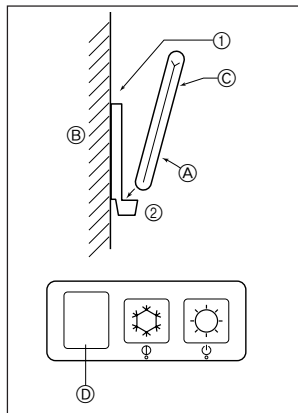
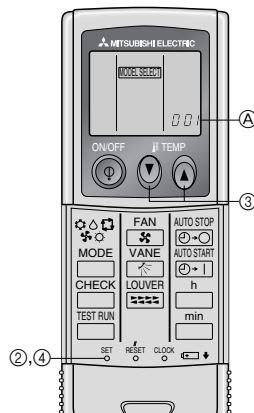

Fig. 6-5
Fig. 6-6
2) Installation method (Fig. 6-5)
- ① Attach the remote controller holder to the desired location using two tapping screws.
- ② Place the lower end of the controller into the holder.
3) Setting (Fig. 6-6)
- ① Insert batteries.
- ② Press the SET button with something sharp at the end. **MODEL SELECT** blinks and Model No. is lighted.
- ③ Press the temp \downarrow \uparrow button to set the Model No.
- ④ Press the SET button with something sharp at the end. **MODEL SELECT** and Model No. are lighted for three seconds, then turned off.